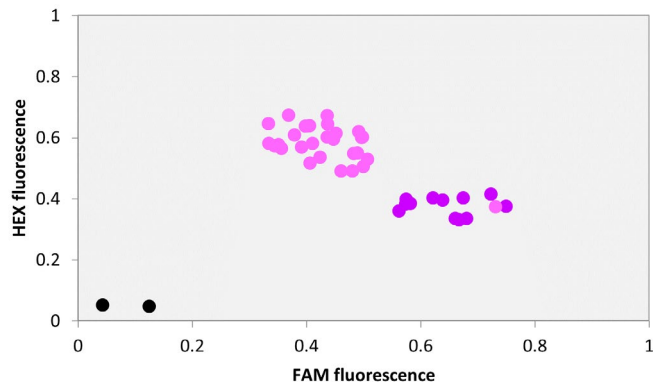
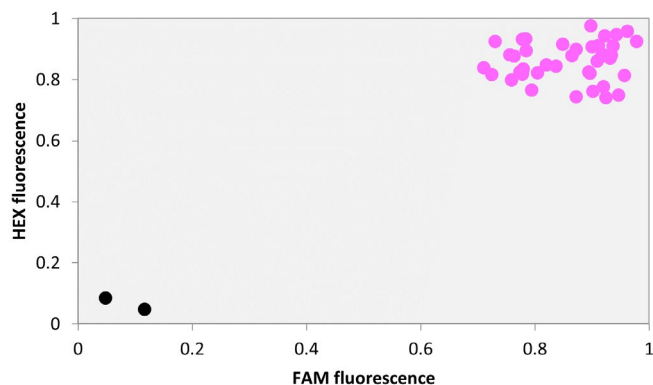

Figure 9a. Distinct genotyping clusters are apparent but their position on the plot is skewed.
Figure 9c. All of the data points cluster in one position on the plot.
**Plot characteristics:** the genotyping groups are drawing too closely together, or merging, on the data plot. Distinct genotyping groups are apparent but their position on the plot is skewed (figure 9a), it is difficult to discern clear genotyping groups (figure 9b), or all of the data points cluster in one position (figure 9c).